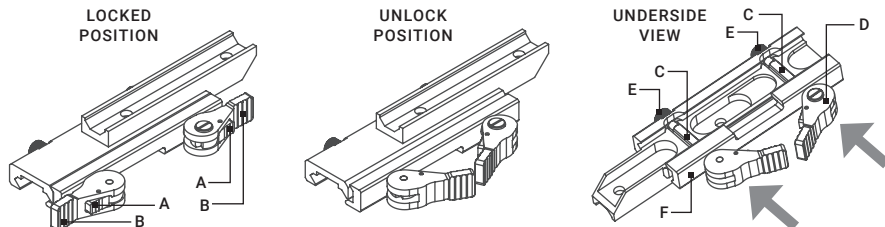

FIGURE 2-2. MOUNT.
3. Unlock the clamping device of the Comanche-40ER mount by pushing down on the lever holder (A, see Figure 2-2) and unlocking the cam lever (B).